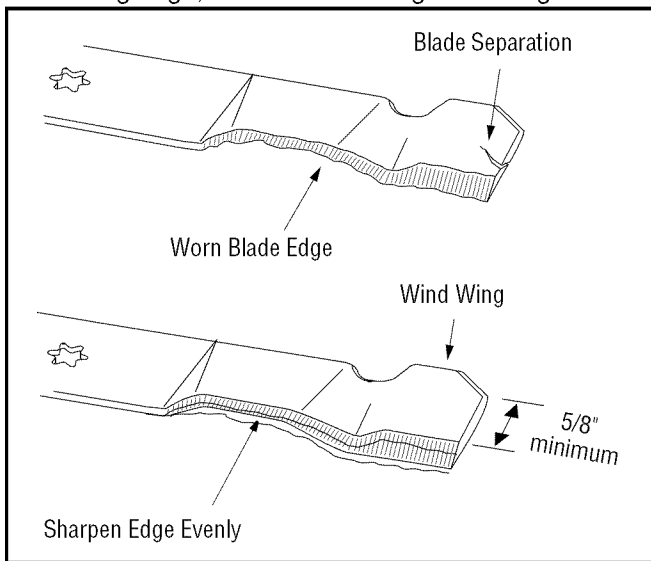

Figure 25
- To properly sharpen the cutting blades, remove equal amounts of metal from both ends of the blades along the cutting edges, parallel to the trailing edge, at a 25° to 30° angle. See Figure 25.
IMPORTANT: If the cutting edge of the blade has already been sharpened to within 5/8" of the wind wing radius, or if any metal separation is present, replace the blades with new ones. See Figure 25.